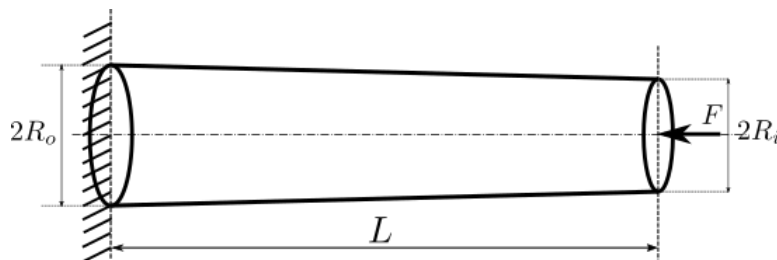

Figure 2: A tapered cantilever beam subjected to an end load.
Consider a tapered cantilever beam of length  $L$  as shown in fig. 2. The cross section is circular, and the radius gradually varies from  $R_o$  at the left end, to  $R_i$  at the right end ( $R_o > R_i$ ; assume that the length is much longer than the largest radius). The Young's Modulus for this beam is  $E$ , and a compressive force of magnitude  $F$  is applied on the right end (at the centroid of the cross-section; the left end is fixed), as shown in fig. 2.
- (d) If the beam is **hinged at both ends**, instead of the cantilever case shown in fig. 2, would the buckling load depend on which end it is applied at? Please provide appropriate justification for your answer. (2 marks)